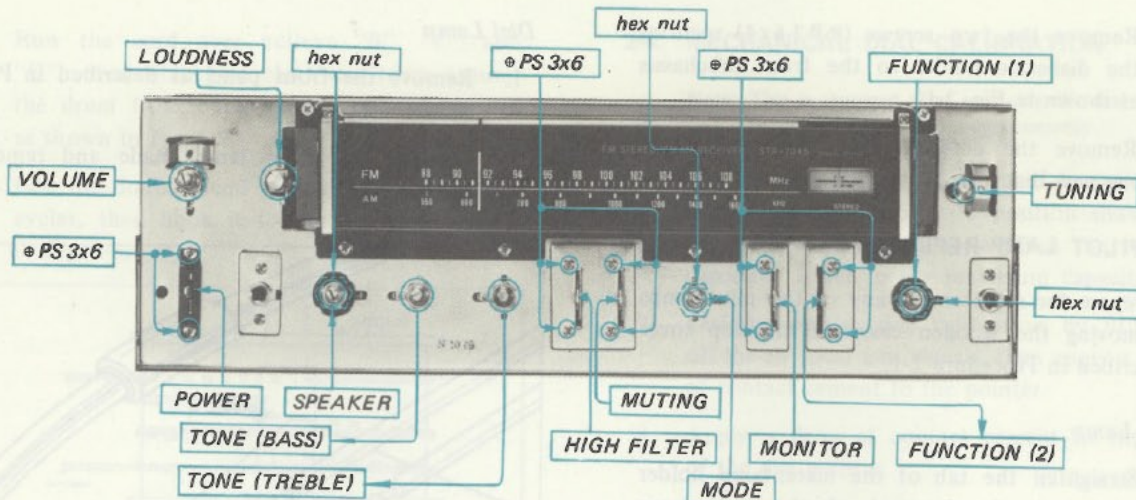

Fig. 2-14. Control and switch replacement
Prepare for replacing any of the controls or switches by removing the wooden case, the top cover and the front panel as described in Procedures 2-1 and 2-2. Refer to Fig. 2-14.
1. Remove the two screws (⊕ PS 3×6) securing switches to the front subchassis as shown in Fig. 2-14.
2. Remove the hex nut securing the switches to the front-subchassis as shown in Fig. 2-14.